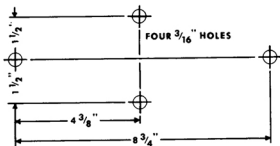

Figure 6 - Reverb Spring Mounting Hole Drilling Template
- ( ) Determine where you wish to mount the reverb spring and drill four  $\frac{3}{16}$  inch holes as shown in figure 6.